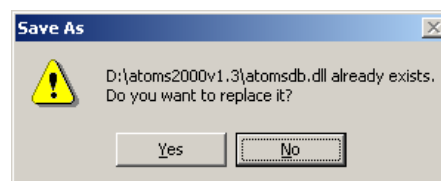

Figure 3-4. Replace File Option
- 7) When told that the file already exists and asked if you want to replace the old with the new, say **Yes** (Figure 3-4).